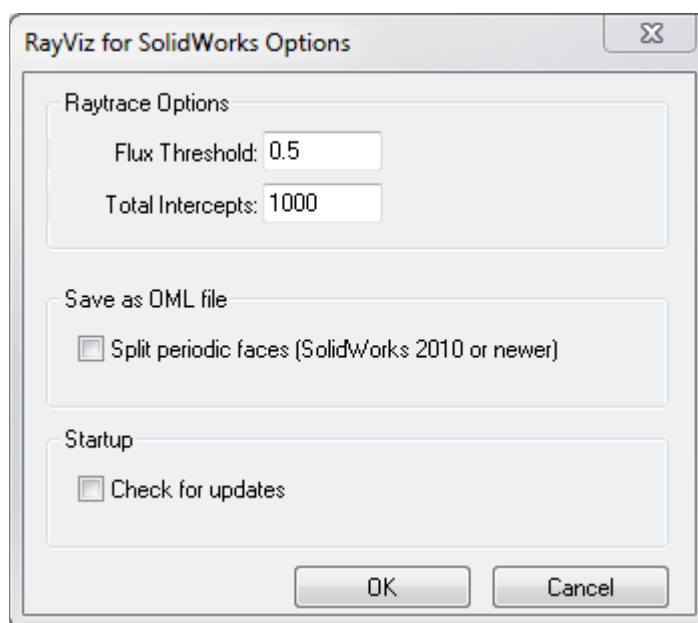

Figure 3.5 RayViz for SolidWorks Options dialog.
- **Options** : This selection allows you to customize the operation of RayViz as shown in Figure 3.5. With the dialog that is displayed you can change the default settings.